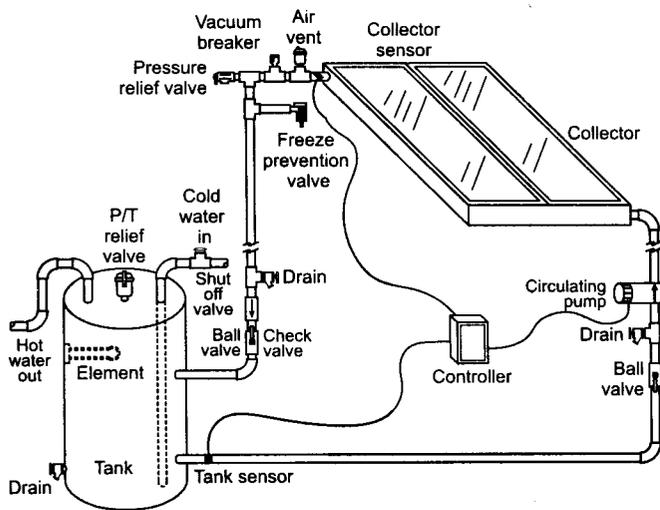

Figure 1. A solar water heating system
In Florida, three types of solar systems are used: pumped, integral collector storage (ICS), and thermosiphon. The direct circulation system (see *Figure 1, page 2*) circulates potable water from the water storage tank through one or more collectors and back into the tank. The solar collector is the main component of the solar system. It is usually a metal box with insulation and a black absorber plate that collects solar radiation and heats the water. The circulating pump is regulated by either an electronic controller, a common appliance timer, or a photovoltaic (PV) panel.
If the circulating pump is regulated by an electronic differential controller, a sensor at the outlet of the collector and a sensor at the bottom of the tank (*Figure 1*) activate the circulating pump when the water in the collector is about 15-20° F warmer than the water at the bottom of the tank. The pump then circulates water from the collector and the tank. This process continues as long as the water temperature at the collector outlet is about 5° F higher than that in the bottom of the tank. If the temperature difference decreases further, the controller automatically shuts off the pump.